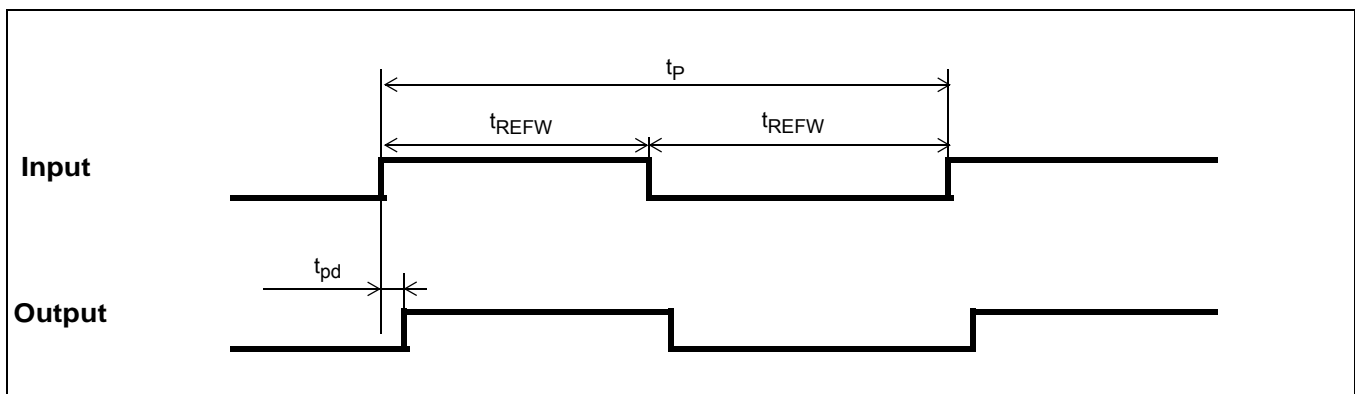

Figure 20 - Input To Output Timing
**AC Electrical Characteristics\* - Inputs and Outputs (see Figure 20) - for 2.5/3.3 V supply.**